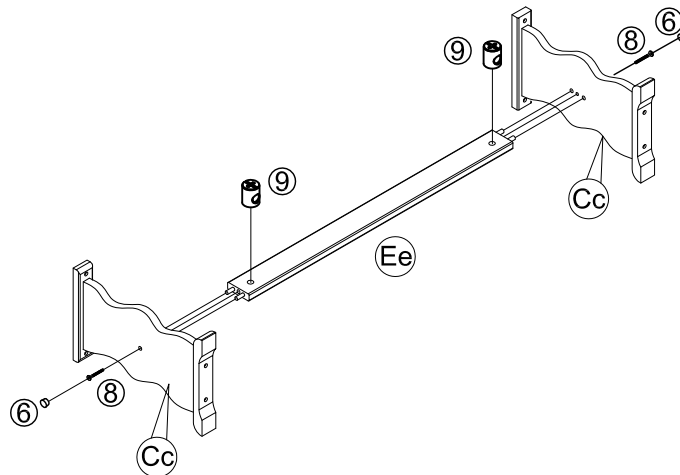

FIGURE 3
- 3.1 ATTACH CROSSBAR #Ee TO LEGS #Cc INSERTING WOOD DOWELS LOCATED AT ENDS OF CROSSBAR INTO HOLES LOCATED ON LEGS. SECURE CONNECTION USING (02) SCREWS ⑧ AND (02) NUTS ⑨. AS SHOWN IN FIGURE 3.
INSERT (02) WOOD HOLE COVERS ⑥ INTO HOLES LOCATED AT LEGS #Cc AS SHOWN IN FIGURE 3.